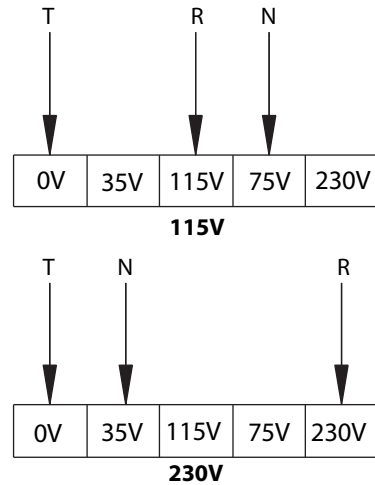

Figure 4 – Welder Transformer Wiring Diagram
8. Rewire welding transformer to 230 volts (See Figure 4).